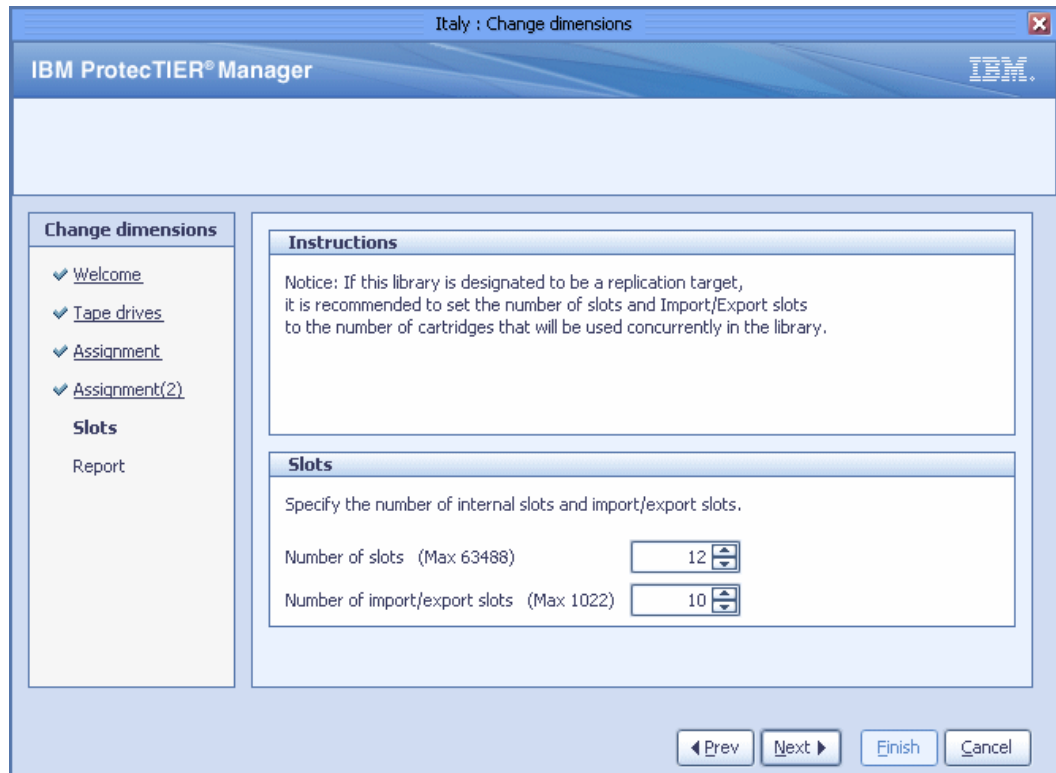

Figure 10-20 Change dimensions: Slots window
9. Repeat steps 9 through 11 for the Assignment(2) window.
10. Click **Next**. The Slots window opens (Figure 10-20).